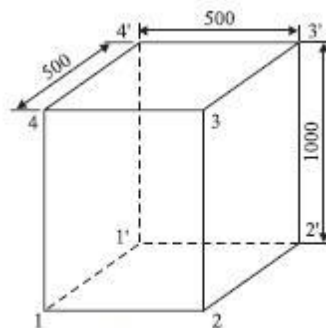

Fig. 5.5. Welded water tank
- 5 (a) A container open on one side of size 0.5 m × 0.5 m × 1 m is to be fabricated from 6 mm thick plates Fig. 5.5. The plate metal weighs 8 gms/cc. If the joints are to be welded, make calculations for the cost of container. The relevant data is: (8) BT3